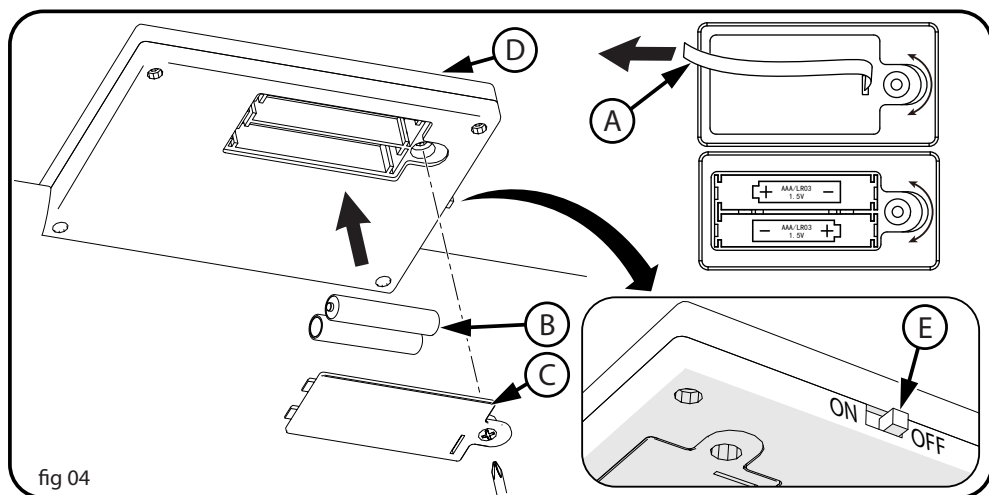

fig 04
- Turn unit ON (E) (fig 04).
- Push the Foot Pads (C) with your feet to activate the sounds.
- Turn unit OFF (E) after use to extend battery life (fig 04).